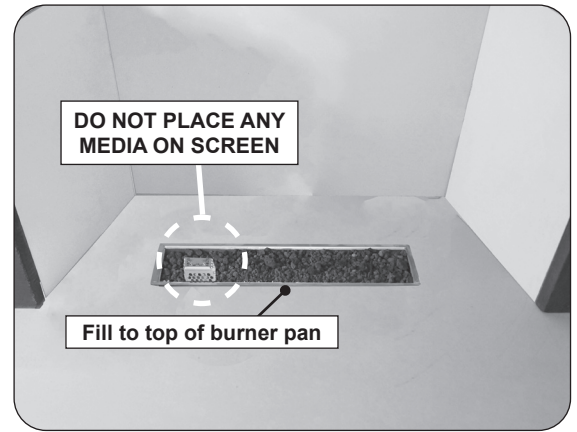
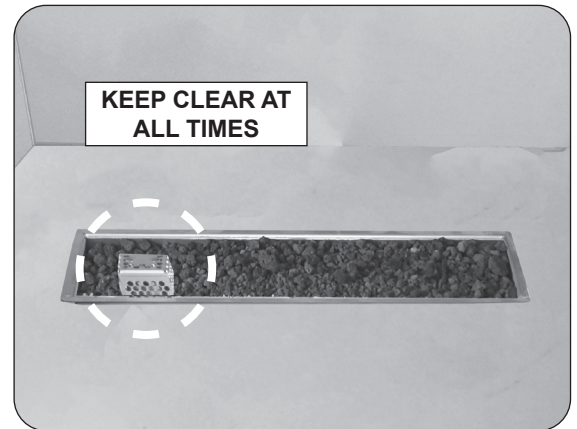

Fig. 27-1 Place lava granules
Fig. 27-2 Screen detail
1. Pour the 5 lb bag of lava granules into the burner pan (with the exception of the screen). Spread the granules within the burner pan as shown in Fig. 27-1 and Fig. 27-2. **Only fill the granules up to the top of the burner pan.**